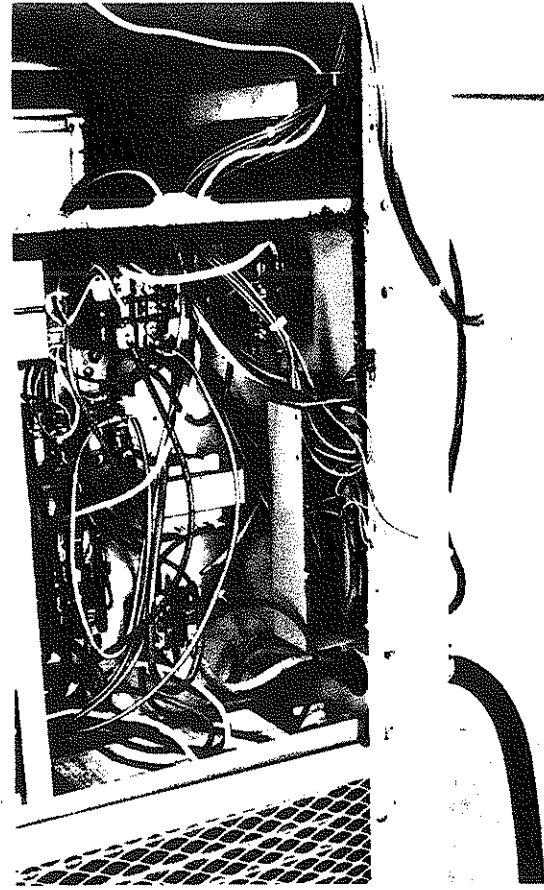

FIGURE 6
- 5.) ROUTE ELECTRICAL HARNESS LEADS DOWN THRU THE (2) 1½" Ø SNAP BUSHINGS IN FILTER RACK AND CONTROL PANEL AND THRU 7/8" Ø SNAP BUSHING INTO LOW VOLTAGE BOX.
- 6.) CONNECT LEADS WITH FORK TERMINALS TO CORRESPONDING POINTS ON TERMINAL STRIP, I.E., T,Y,G. (SEE FIGURE 6)
- 7.) WIRE NUT LEADS WITH 5/8" STRIPPED ENDS TO Y1, and Y2 LEADS FROM THERMOSTAT. (SEE FIGURE 6)